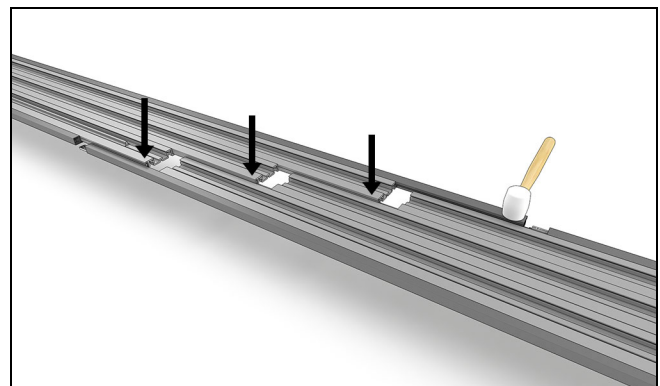

Figure 19
3. Press the splice sections together and seat with a rubber mallet. See Figure 19.